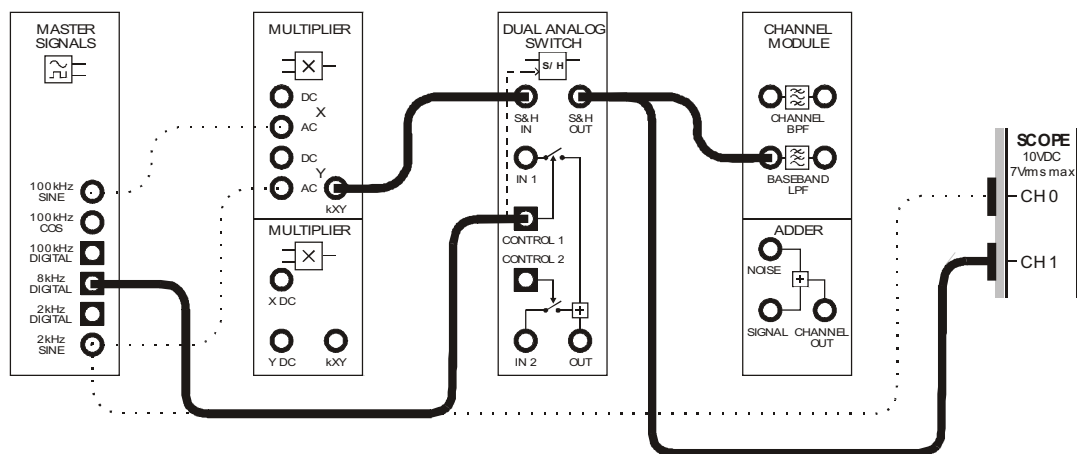

Figure 3
21. Modify the set-up as shown in Figure 3 below.